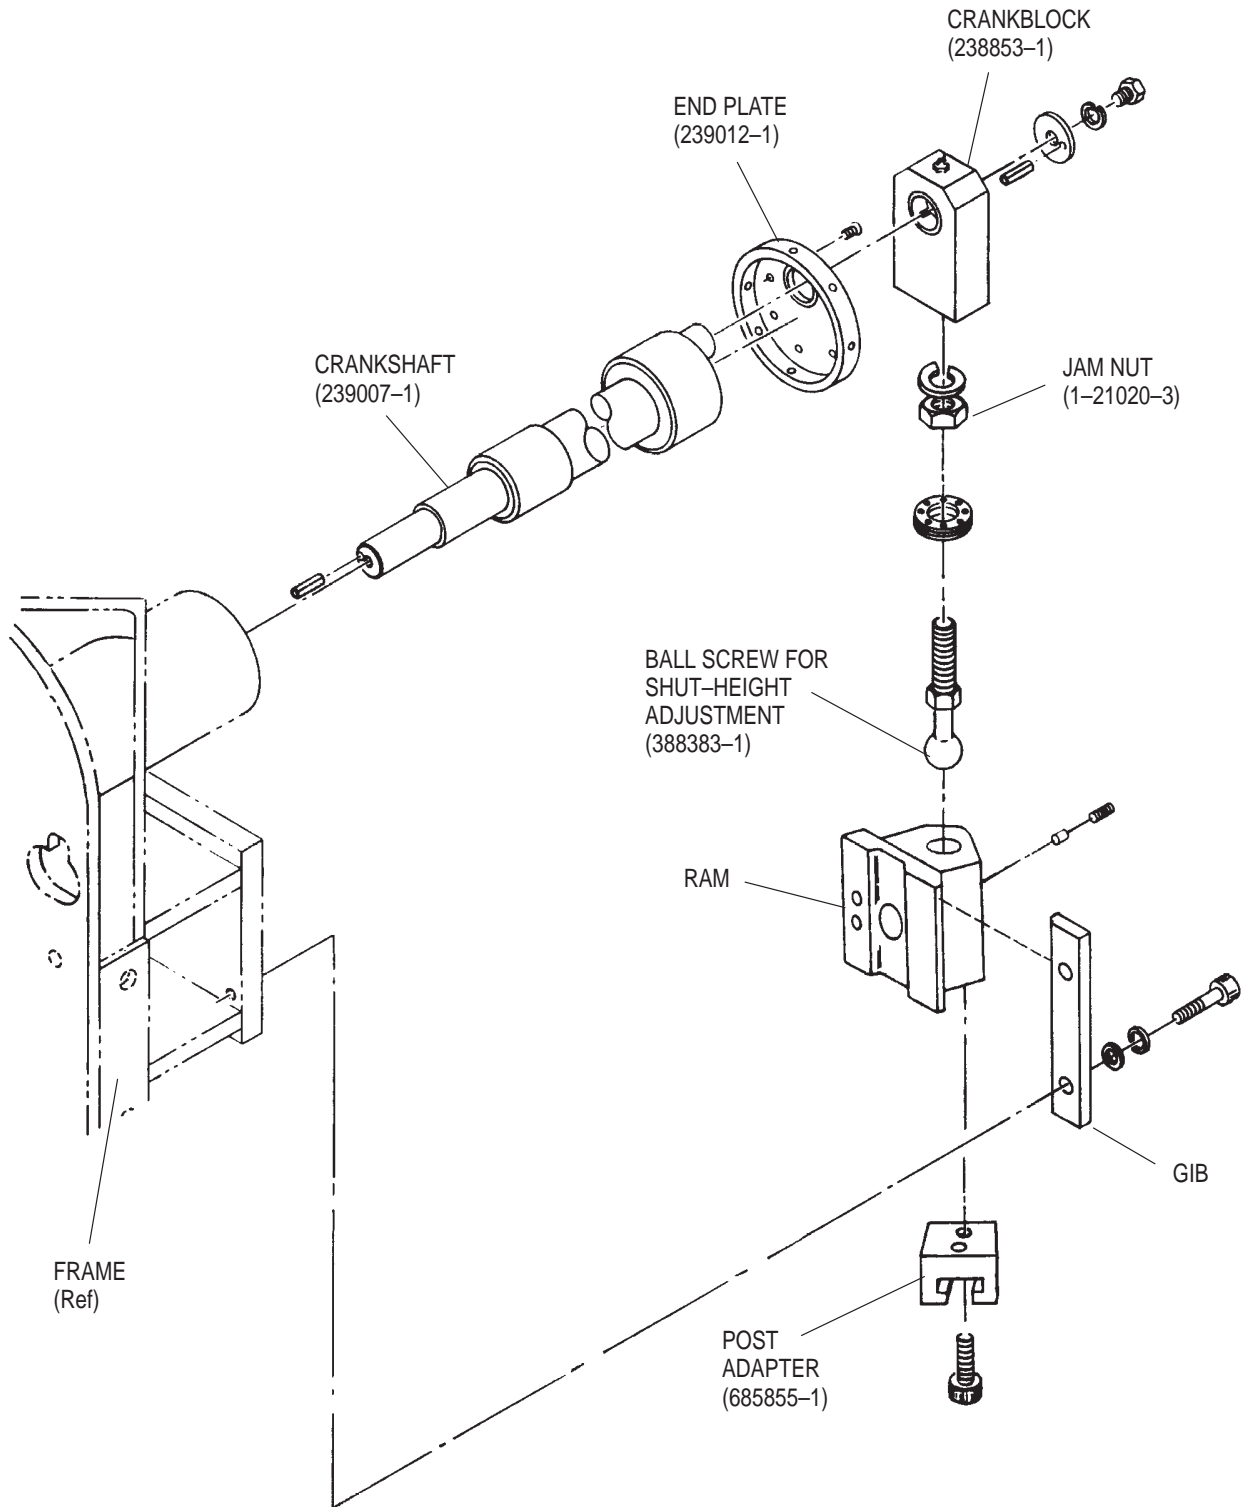

Figure 6-3. Crankshaft-Ram Group Replacement
6.7. Crankshaft-Ram Group Replacement (Figure 6-3)
To replace parts related to the crankshaft and ram, disassemble them as shown in Figure 6-3. Re-assemble parts in reverse order of assembly. After assembly, adjust the shut height to the EXACT dimension measured before disassembly, as described in Section 5, ADJUSTMENTS.